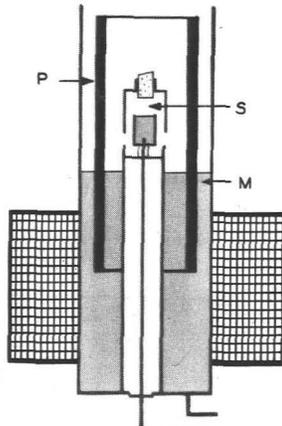
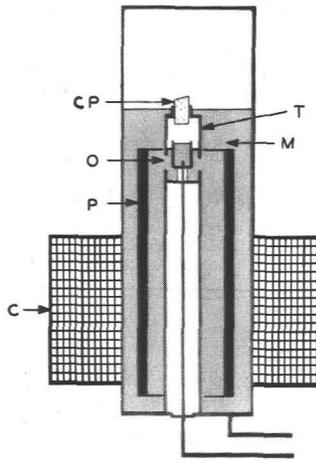

FIG. III-12A
FIG. III-12B
The method of obtaining the operate time delay may best be understood from Fig. III-12 which shows how a normally open slow make contact functions. In Fig. III-12A the plunger (P) is floating in a pool of mercury (M). The space (S) is filled with an inert gas. When the coil (C) is energized (Fig. III-12B), the plunger (P) is pulled down into the mercury (M). The mercury thus displaced enters the thimble (T) through the opening (O). The mercury is prevented from immediately rising in the thimble by the pressure of the gas inside.